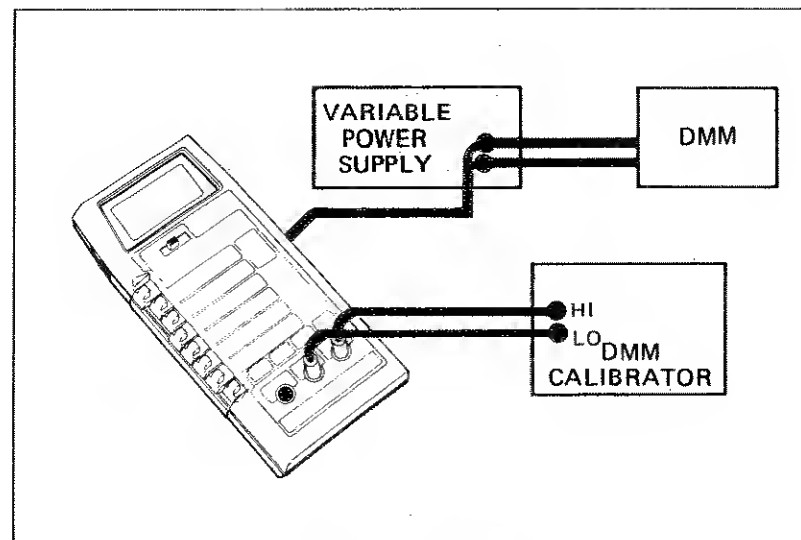

Figure 4-5. BT Test
1. Connect the equipment as shown in Figure 4-5.